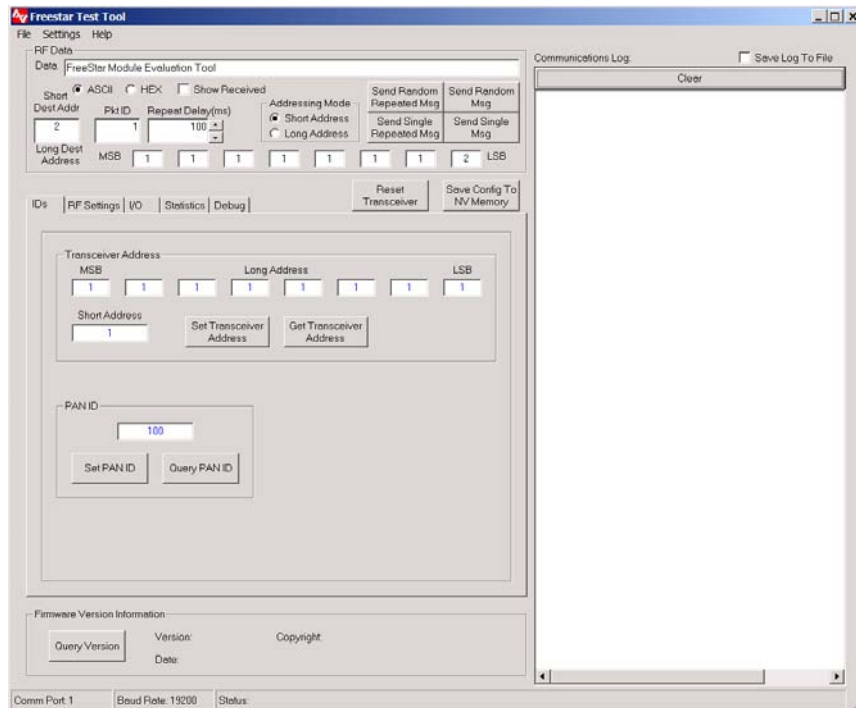

Figure 4-1. Evaluation Software - Main Screen
The FreeStar evaluation software was designed to give the developer an ability to quickly test the features built into the Trane RF module. The evaluation software is described in the following sections. A screen shot of the evaluation software is shown in Figure 4-1. Developers please refer to chapter 5 for information on building custom applications for use on the Trane RF module.
4.2.1 ***Main Section of Test Tool (Upper left portion of the Test Tool as shown in Fig 4-1)***
4.2.2 Setting Device Identification (See Figure 4-1)